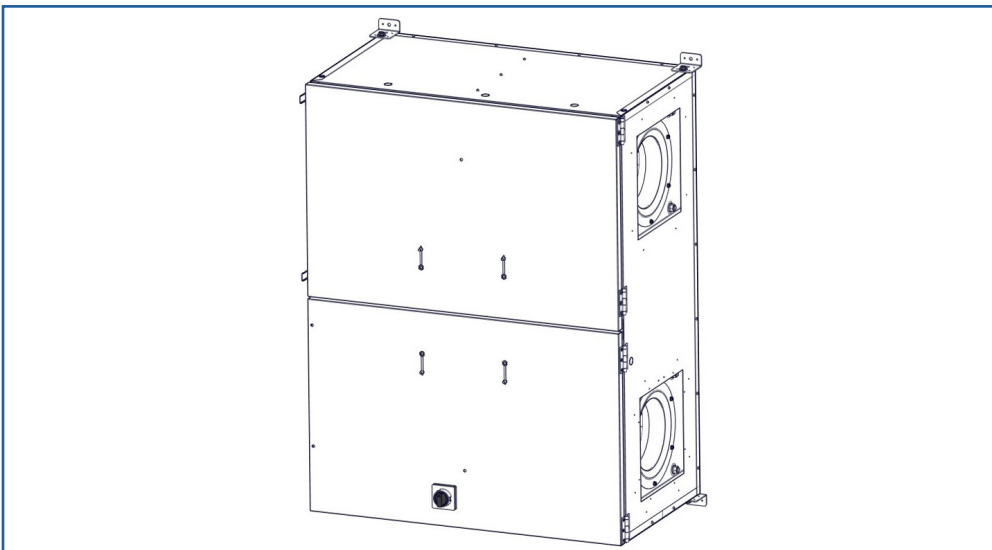

FIGURE 5.3.1 HANGING BRACKET KIT
The HE07IN–HE15IN can also be mounted to structural members using the Hanging Bracket Kit, available as an accessory. Remove the four adjustable legs and use the included $3/8$ "-16 bolts and washers to attach the hanging brackets to the unit as shown in Figure 5.3.1. The hanging brackets may be attached directly to a structural member or used in combination with threaded rod and the hanging vibration isolators (see Section 5.3.4). If the spacing of the unit mount points does not fit the application, the hanging brackets may alternatively be attached directly to the cabinet using (16) #12 x $3/4$ " long self-tapping sheet metal screws (not provided). Ensure that the unit is adequately supported at all four corners and that the placement of the brackets maintains required service clearances.